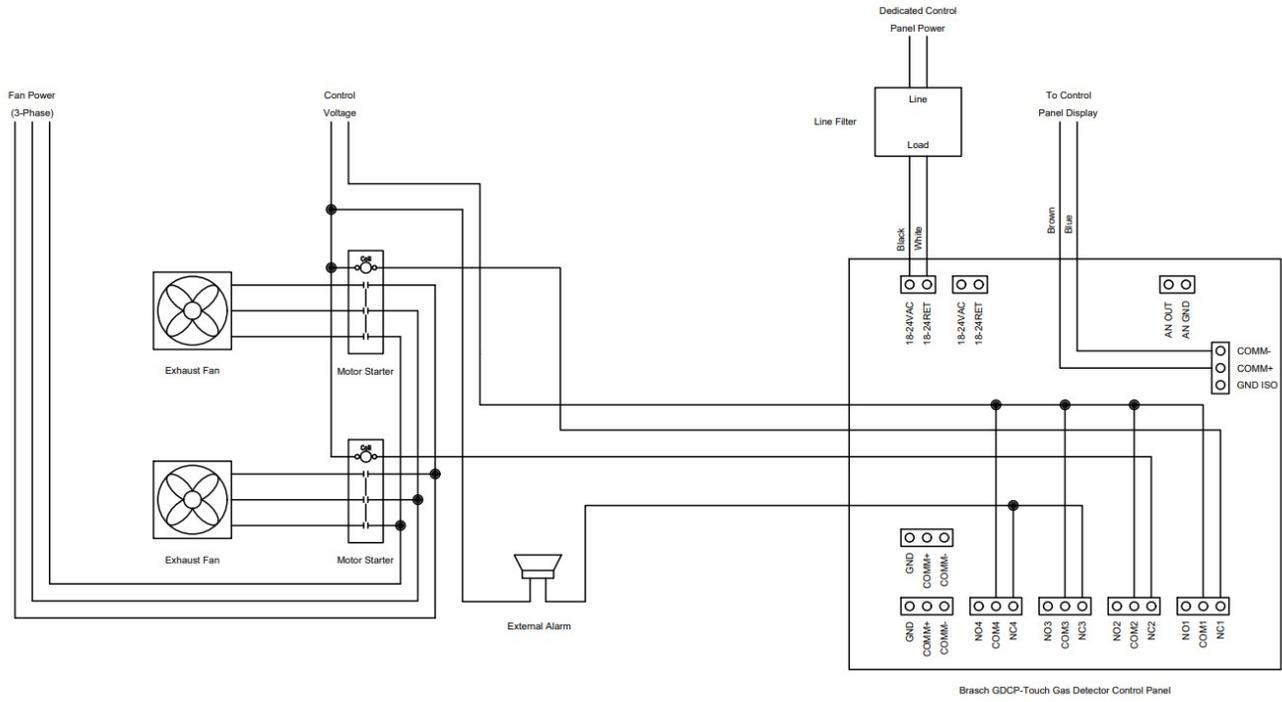

Figure 1: Wiring – Two Fan Ventilation System with Common Alarm
As an energy saving device, the main function of this control panel is to operate the ventilation system only when necessary. To accomplish this, the panel is equipped with four control relays for both normally open (NO) and normally closed (NC) operation. The contacts of these relays can control various ventilation system configurations. Figures 1 and 2 on page 21 give examples of the wiring for some common systems. Coil control signals on relays for damper and make-up air units can also be connected across the panel's relay contacts so that these components actuate simultaneously with the exhaust fans. However, do not exceed the maximum ratings of the relays (see page 7).
Figures 1 and 2 on page 21 show typical alarm wiring.